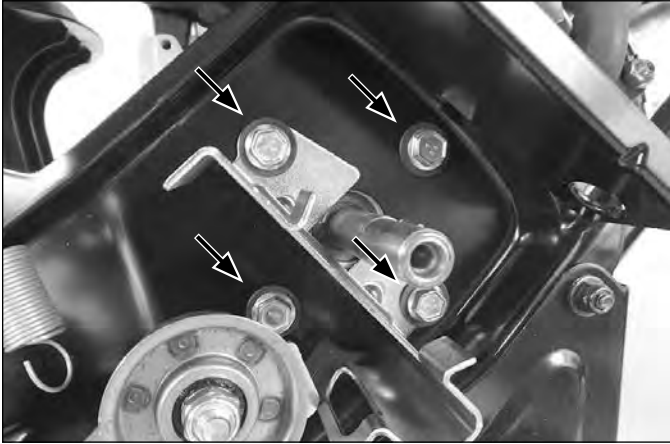

Fig. 007
1. Insert the engine into the chassis. Install the four engine mounting bolts that connect the engine to the side plate (A). Torque to 14-18 ft-lbs (19-25 Nm) (Fig. 007).